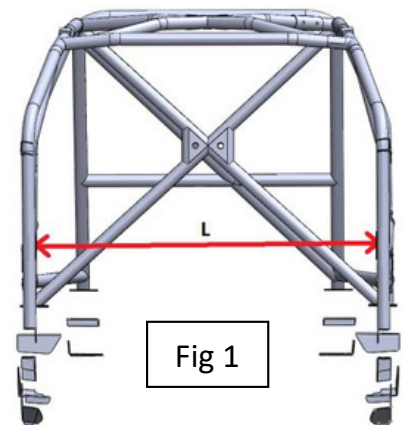

Fig 1
1. Decide upon what position you wish to mount the dash bar on your cage. Measure required length (L) between the two front leg inside edges as shown in Fig 1.